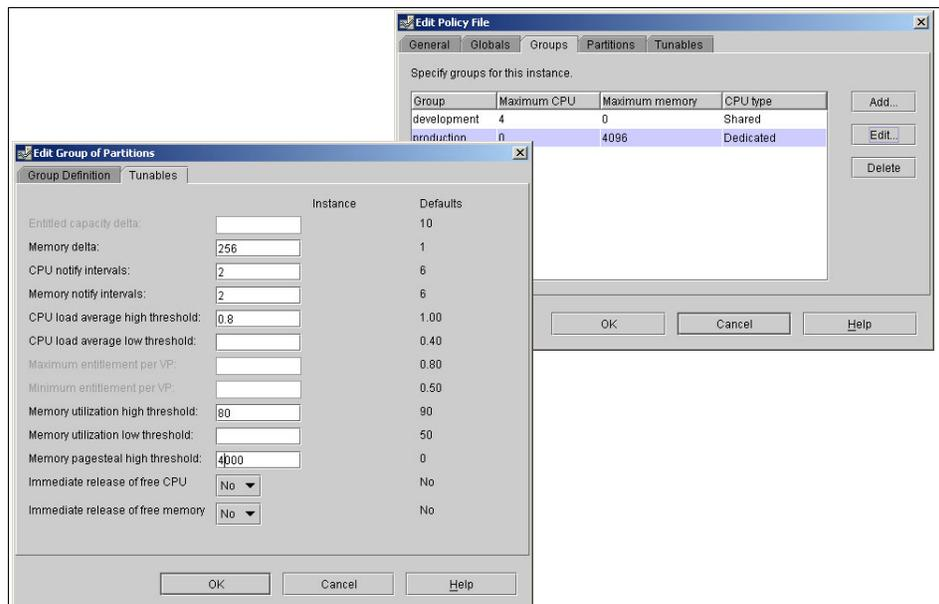

Figure 6-22 PLM wizard: setting the group tunables
- Since the policy for both partitions is to be identical, we will define a group policy rather than individual partition policies. Click the **Groups** tab, which shows us a summary of all the defined groups. Click the production group to highlight it and then click the **Edit** button and in the window that pops up, click the **Tunables** tab, as shown in Figure 6-22.